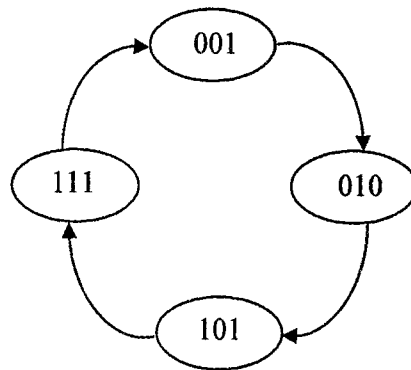

Figure 9
5. (a) Design a counter to produce a sequence as shown in Figure 9.